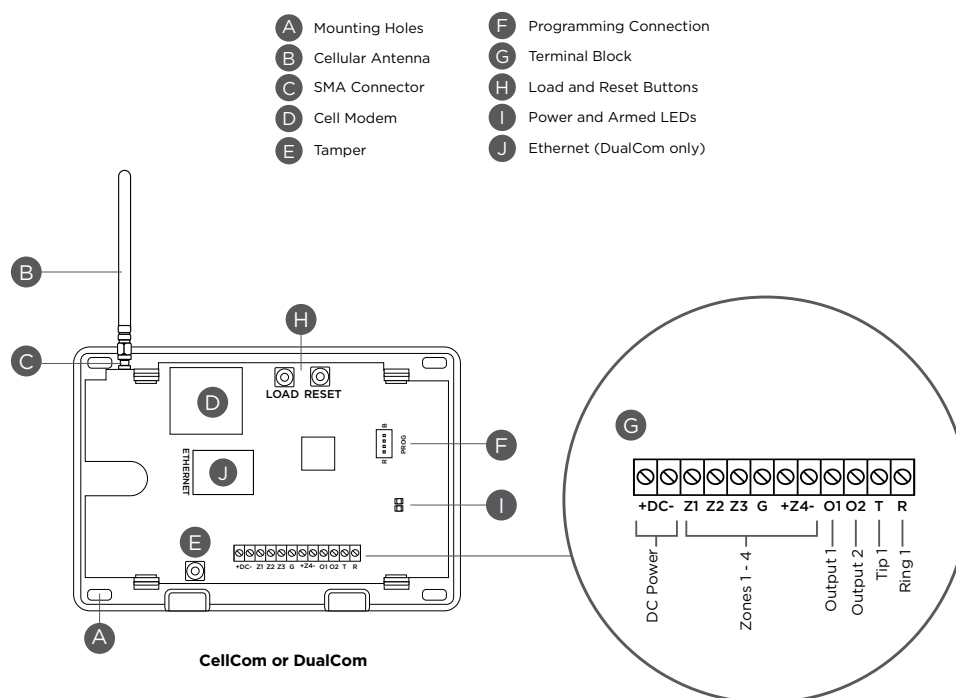

Figure 1: CellCom and DualCom Components
It is not necessary to remove the PCB from the housing when installing the communicator. The communicator should be mounted to a wall using the included #6 screws in the mounting holes. Refer to Figure 1 for mounting hole locations.
1. Attach the antenna to the SMA connector. Refer to Figure 1.